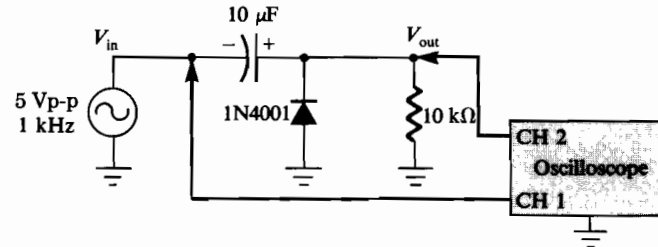

FIGURE 5-1 Schematic diagram of circuit.
1. Wire the clamper circuit shown in the schematic diagram of Figure 5-1. Set your oscilloscope to the following approximate settings:
1. For the circuit of Figure 5-1 to function properly, the input frequency should be at least
2. For the circuit of Figure 5-1, if the input signal has a peak voltage of V_p , then the output signal is
3. For the circuit of Figure 5-1, the negative peak voltage of the output signal is approximately
5. In order to change the circuit of Figure 5-1 to a negative clamper, you must